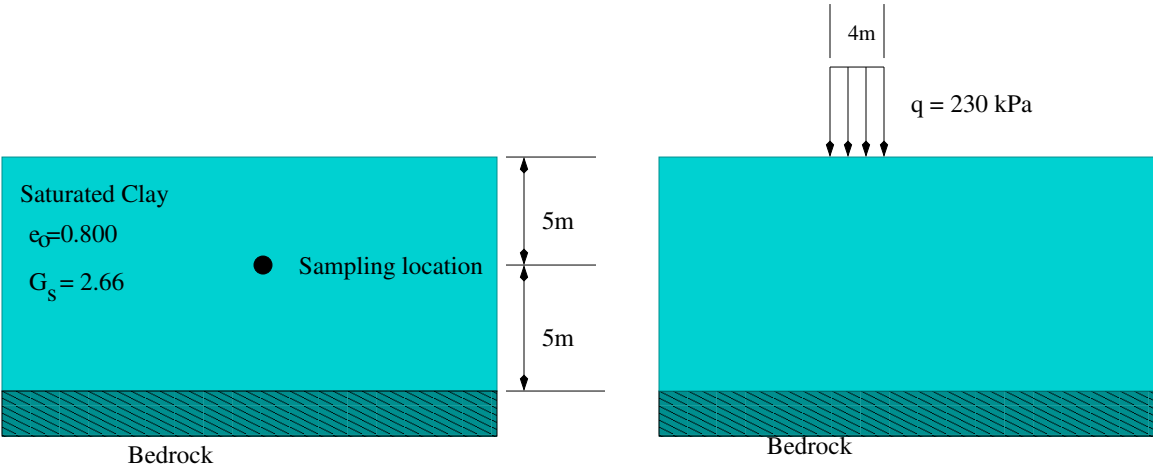

Figure 1. Geometry and loading conditions for the consolidation problem.
In this laboratory assignment, a finite element program will be used to compute the two-dimensional pore pressure distribution and the two-dimensional elastic consolidation settlements that occur beneath a foundation loading on a soil. While this problem could be treated approximately using one-dimensional models, the objective of this lab assignment is to briefly demonstrate how these problems can also be solved using computer based methods. (In subsequent courses, especially 53:133, you'll have the opportunity to learn more about how these computer based methods actually work.) The specific problem to be addressed in this lab is shown in Figure 1 of this handout. For the geometry and loading conditions shown, the program solves for equilibrium of both the soil skeleton (1) and the pore fluid (2):
2. Enter these values in the consol.data file (which is the data file that sets up the problem shown in Figure 1).